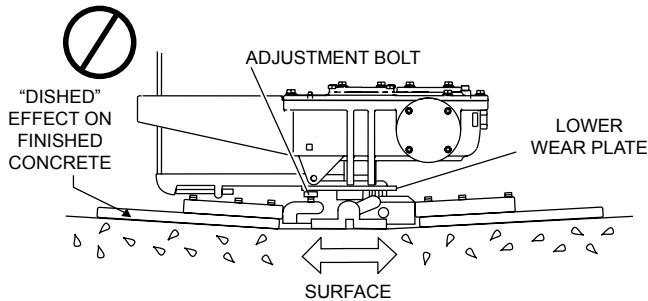

Figure 34. Incorrect Spider Plate Alignment
2. Pitch the blades as flat as possible. The adjustment bolts should all barely make contact with the lower wear plate on the spider. If one is not making contact, adjustment will be necessary (Figure 34).
Figure 34 illustrates “incorrect alignment,” worn spider bushings or bent trowel arms. Check that the adjustment bolt is barely touching (0.10" max. clearance) lower wear plate. All alignment bolts should be spaced the same distance from the lower wear plate.